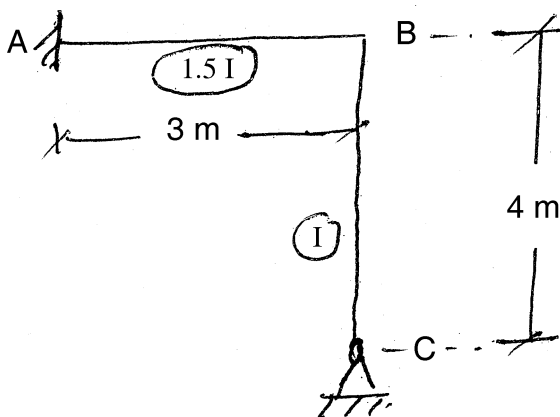

Fig. 2
1. Draw ILD for  $R_A$ ,  $M_A$  and  $M_B$  of frame as shown in Fig. 2. **12**